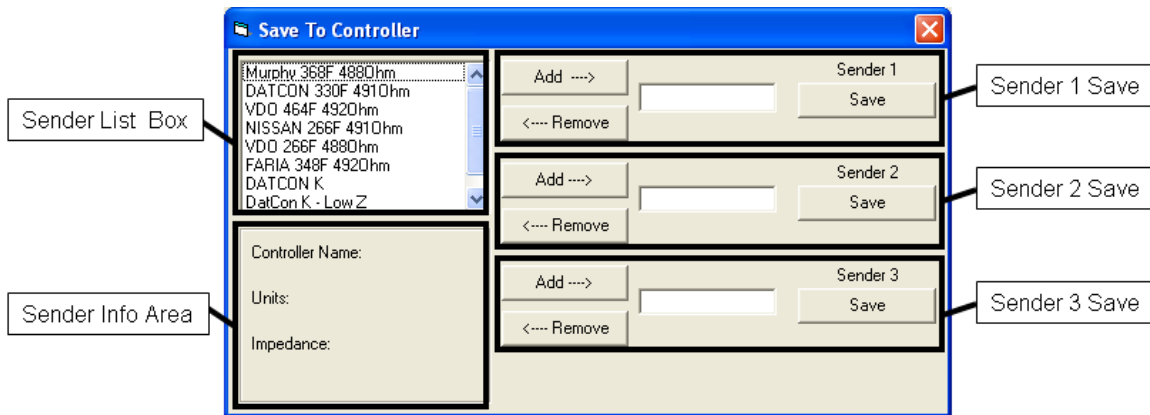

Figure 54 – “Save To Controller” Window
2. Click the “Save Tables To Controller” button in the lower right hand corner of the Utility. A new window will open up as shown in Figure 54.